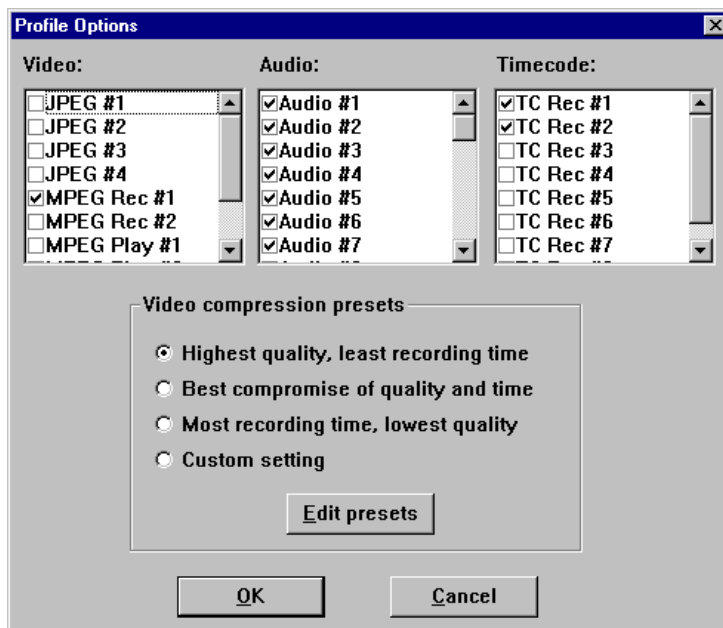
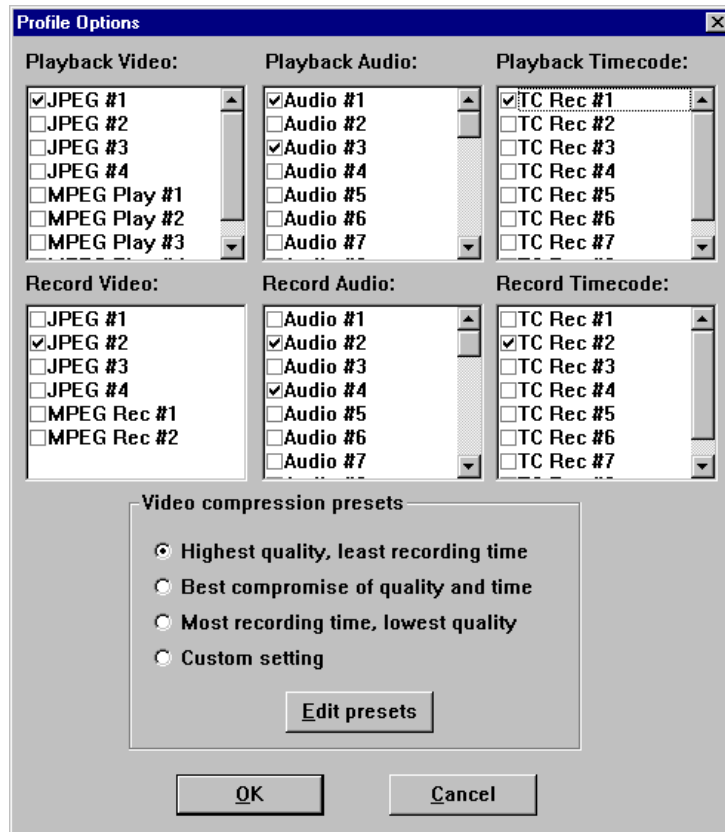

Figure 78. Profile Options dialog box
Figure 79. Profile Options dialog box (BVW [insert-edit] only)
2. Choose **Controller | Configure** to open the Profile Options dialog box for the selected panel. Figure 78 illustrates the standard Profile options with an example configuration selected; Figure 79 illustrates the Profile Options dialog box for BVW [insert-edit], also with appropriate selections shown.
2. Choose **Controller | Configure** to open Profile Options (see Figure 78 on page 145).